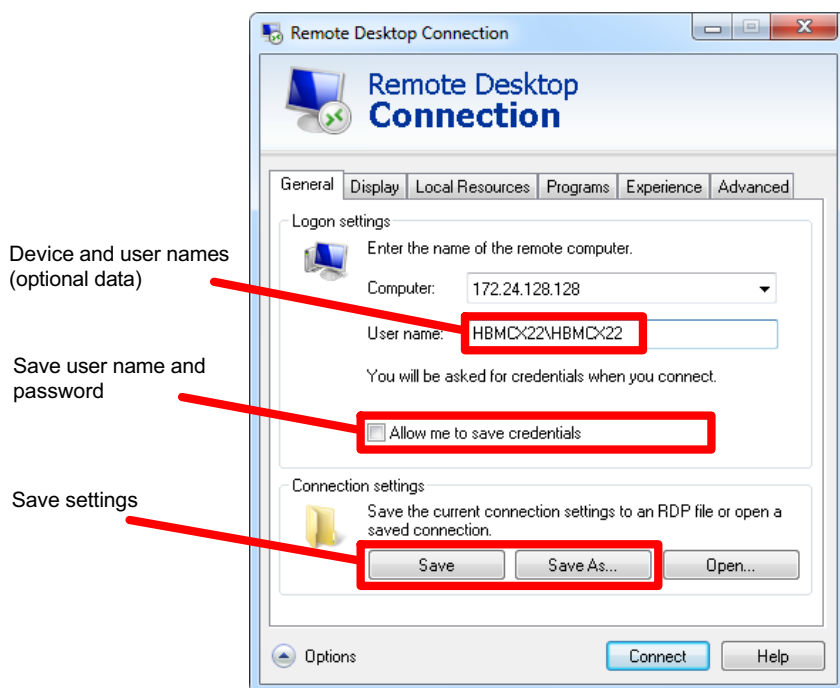

Fig. 7.13 Saving the remote desktop configuration
5. Save the configuration via the **General** tab, either under a new name (**Save as**) or as a default setting via the QuantumX Data Recorder Assistant (**Save**), see Fig. 7.13.
If you double-click this configuration file (or a link to it), a connection to the CX22-W is immediately set up, and you only have to enter the password. If you authorize **Save login information** (see Fig. 7.13), this is done automatically.